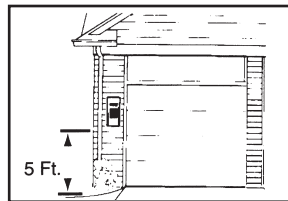

Figure 2
1. Choose a location that will not interfere with the normal operation of the door or gate. See Figure 2.